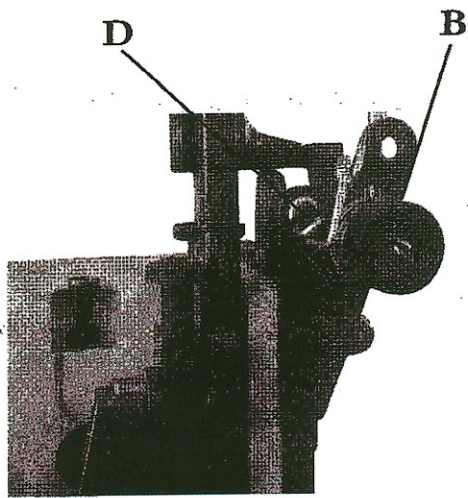

Fig. 2
- From the right through the thread guide D of the upper hole, as show in Fig. 2.
- Clockwise around and between the tension disk of the control button B, as show in Fig. 2.